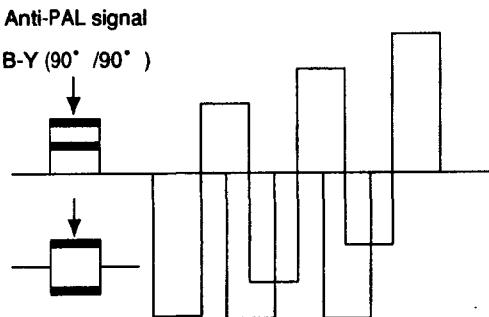

Fig. 5-26 B-Y OUT
- 4) Adjust **B-Y PHASE PAL** so that the waveform of the R-Y anti-PAL signal will be "0." (Fig.5-26)